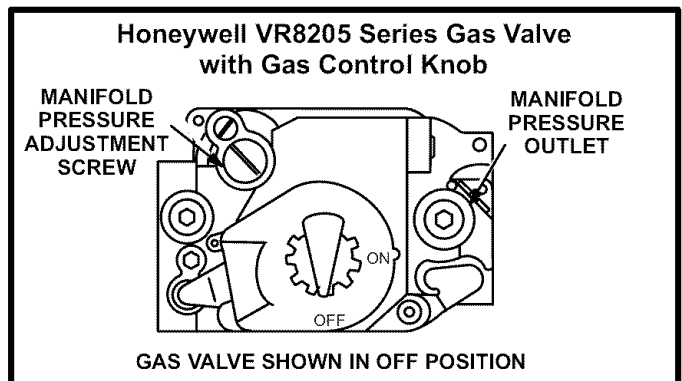

FIGURE 28
*Honeywell VR8205 Gas Valve with Control Knob* - Turn knob on gas valve clockwise  to **OFF**. Do not force. See figure 28.
*Honeywell VR8205 Gas Valve with Control Knob* - Turn knob on gas valve counterclockwise  to **ON**. Do not force. See figure 28.